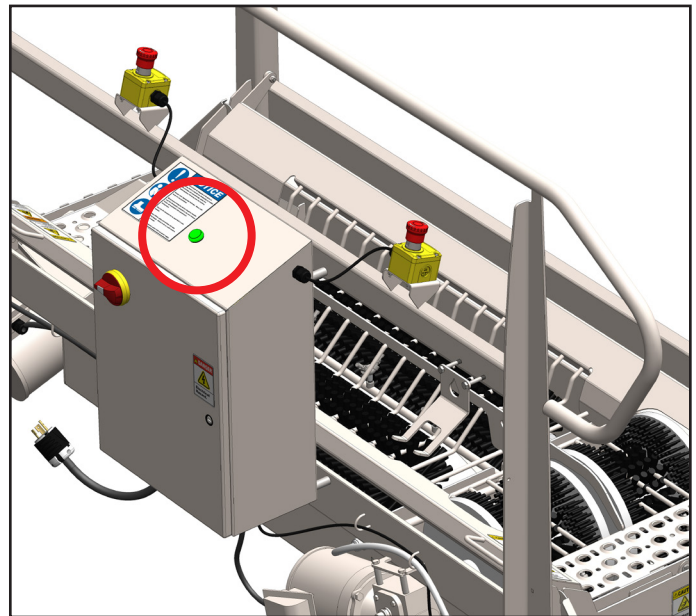

Fig. 9.1: Power indicator on control box, shown on BLX-1000R
2. Pull the E-STOP switches up and engage power, when the green light on control box is illuminated the unit is receiving power [Figure 9.1].